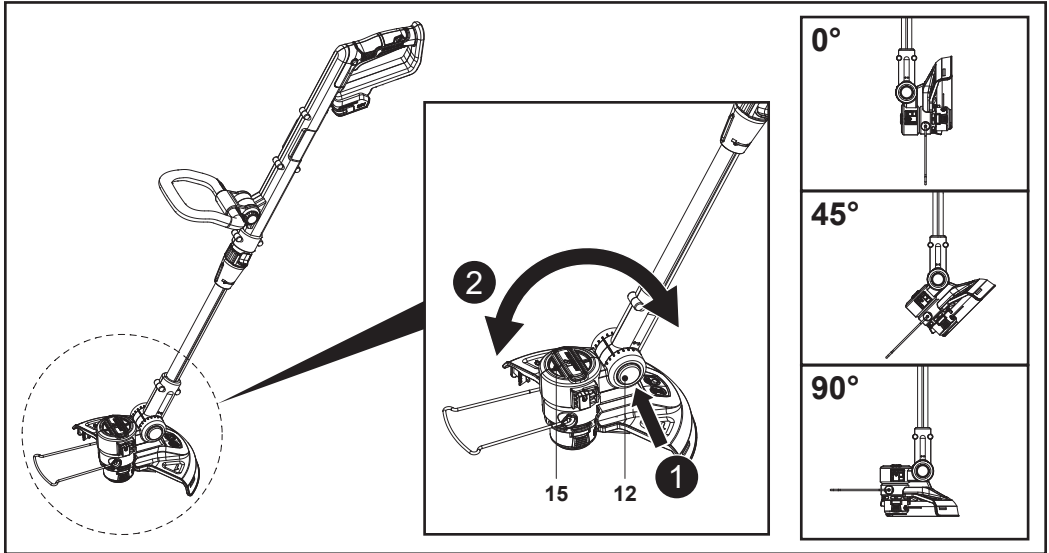

Fig. 7
NOTE: The cutting head (15) can be set to 7 positions (0°, 15°, 30°, 45°, 60°, 75°, 90°) (Fig. 7).
1. Press the cutting head lock (12) (Fig. 7).
2. Adjust the cutting head (15) angle (Fig. 7).
3. Release the cutting head lock (12).
4. Make sure that the cutting head (15) locks in place.